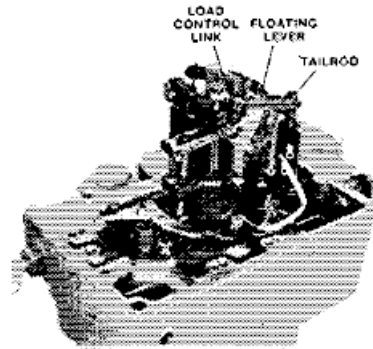

Figure 5-63. Floating Lever Connection
38. Attach linkage of fuel limiter, load control, and speed setting as shown in Figure 5-63.